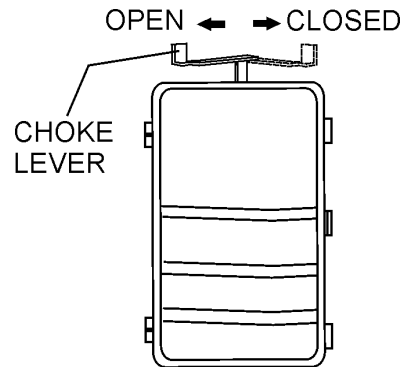

Figure 12. Choke Lever
2. Place the **choke lever** (Figure 12) in the "**CLOSED**" position if starting a **cold** engine.
3. Place the **choke lever** (Figure 12) in the "**OPEN**" position if starting a **warm engine** or the **temperature is warm**.
6. If the engine has started, slowly return the choke lever (Figure 12) to the "**OPEN**" position. If the engine has not started repeat steps 1 through 6.